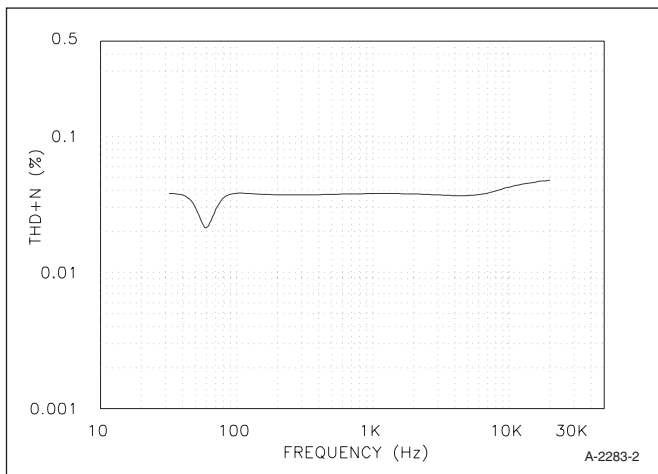

FIGURE 2: THD+N vs. frequency.
*Figure 2* shows THD+N vs. frequency at a reference input level of 2mV/cm/s. I used the distortion test set 80kHz low-pass filter to limit out-of-band noise during the distortion tests. There is a dip in the THD curve at 60Hz, indicating the presence of some 60Hz hum pickup in my test setup. (The CT 102 does not bring 60Hz on board.)